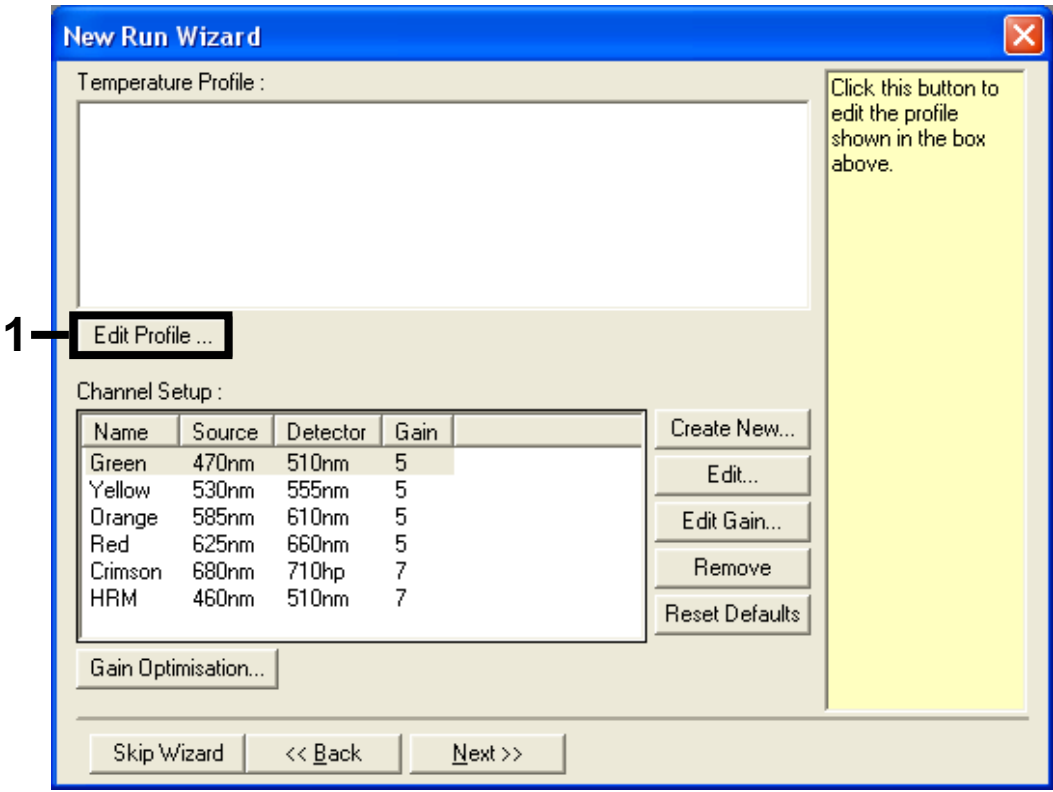

Figure 23. Editing the profile (1).
- 5. Click the "Edit Profile" button in the "New Run Wizard" dialog box (Figure 23) and check the run parameters according to the following steps.